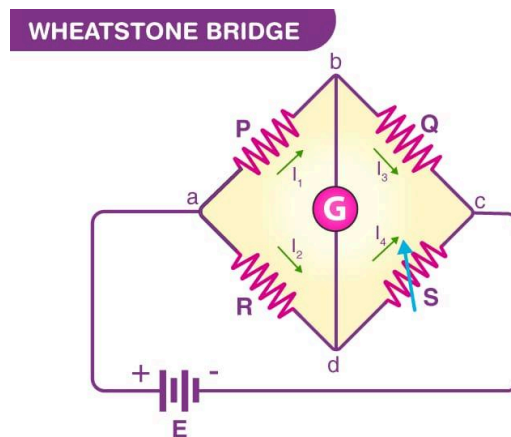
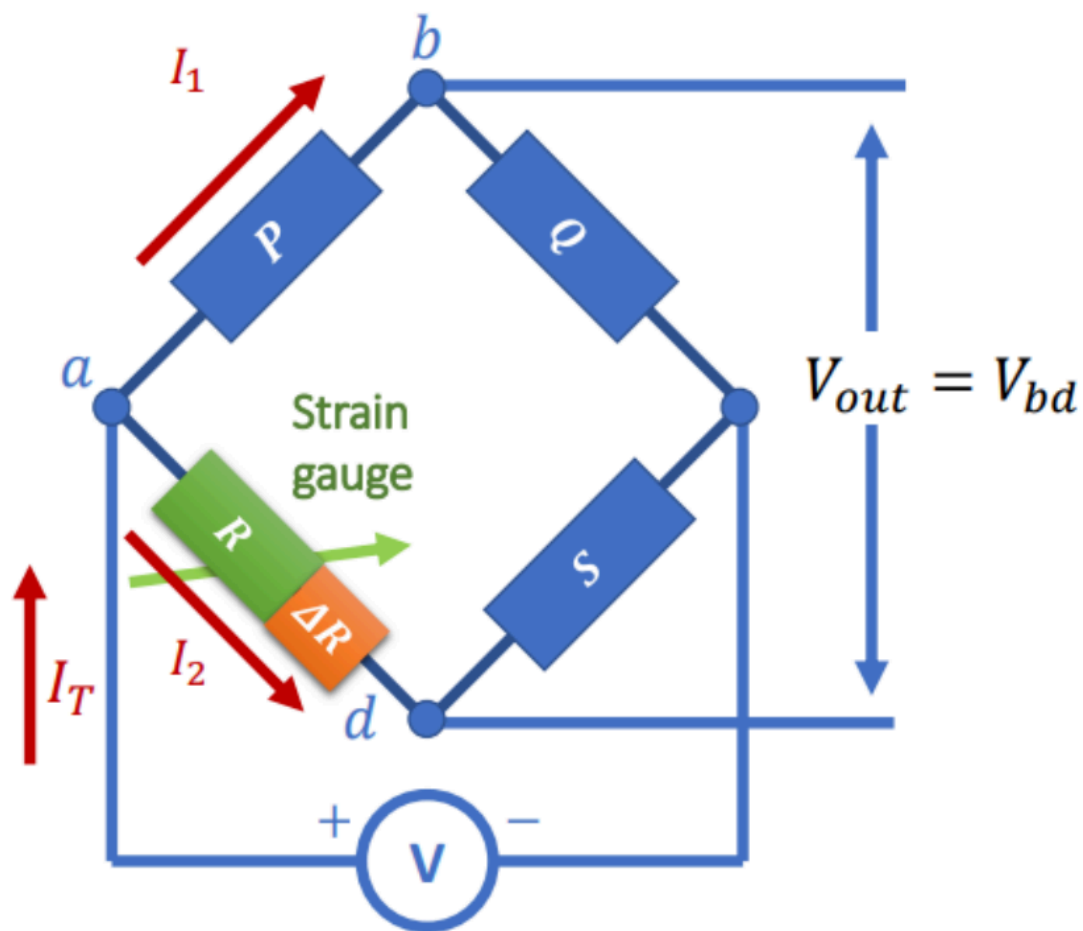

Fig. 1
Fig. 3: Sensor with variable resistance output in the place of R
Wheatstone bridge is widely used for measuring any electrical resistance accurately. There are three known resistors(P, Q and S) and an unknown resistor (R) bridge form as shown in Fig.1 and Fig. 3.
We used 3 known resistors, a potentiometer, a 9V DC battery, a multimeter, a breadboard and jumper wires to build the Wheatstone Bridge as shown in Fig. 1. The resistance R was replaced by the potentiometer and the multimeter was connected in between the terminals b and d to measure the voltage across them. We proceeded with the experiment after the circuit was verified by the TA.